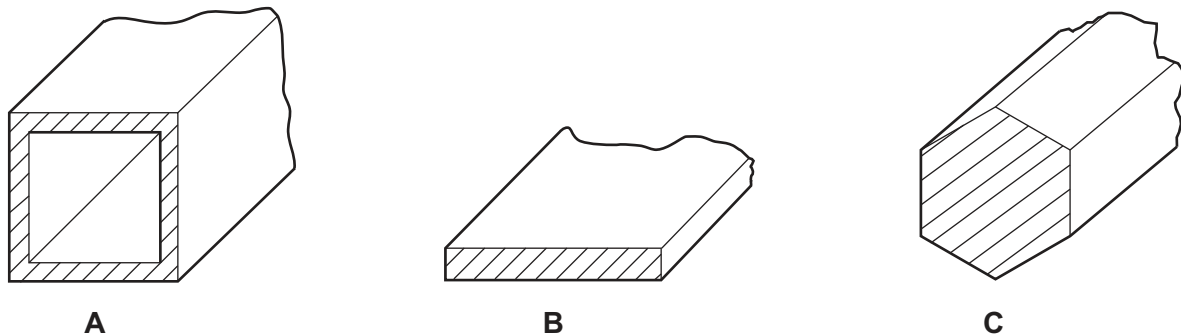

Figure 8.1
- 8 Figure 8.1 shows three standard metal forms **A**, **B** and **C**.